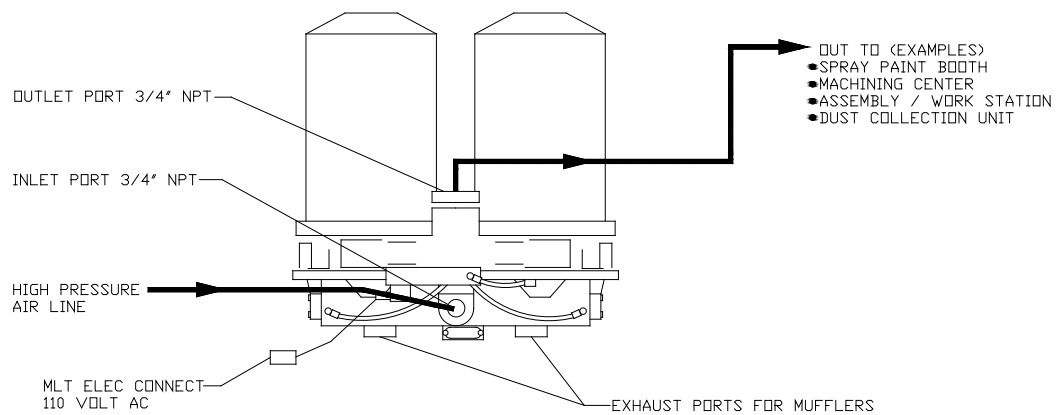

FIGURE 1: Air Connection Schematic
1. The DA Series must be mounted with the exhaust ports positioned downward. (Ref. Fig 1.)
3. Mount DA Series downstream of air compressor reservoir (Ref. Fig 1)
1. Connect high pressure line (175 psig max) to DA Series inlet port (Ref. Fig.1)
2. Connect DA Series outlet port to system air line (Ref. Fig. 1)